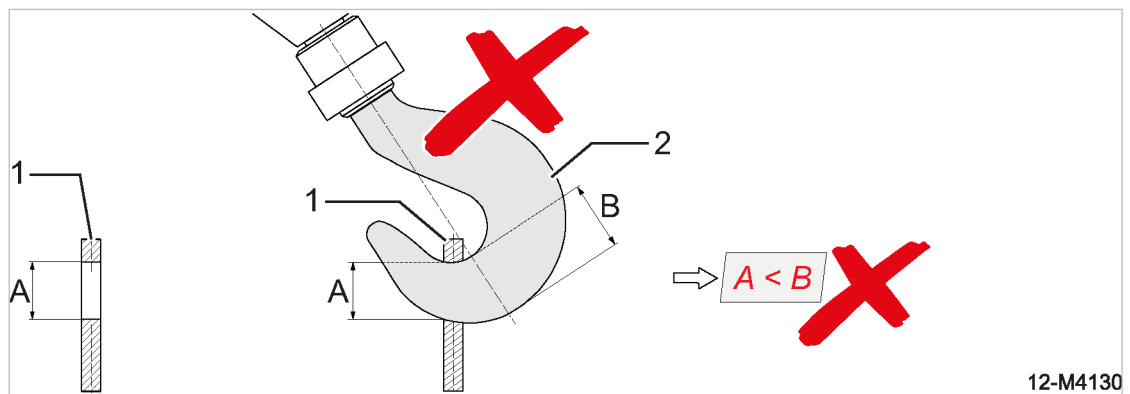

Fig. 66 Example: Improperly inserted crane hook
- Do not lift the machine with the crane under any circumstances, see Fig. 66.